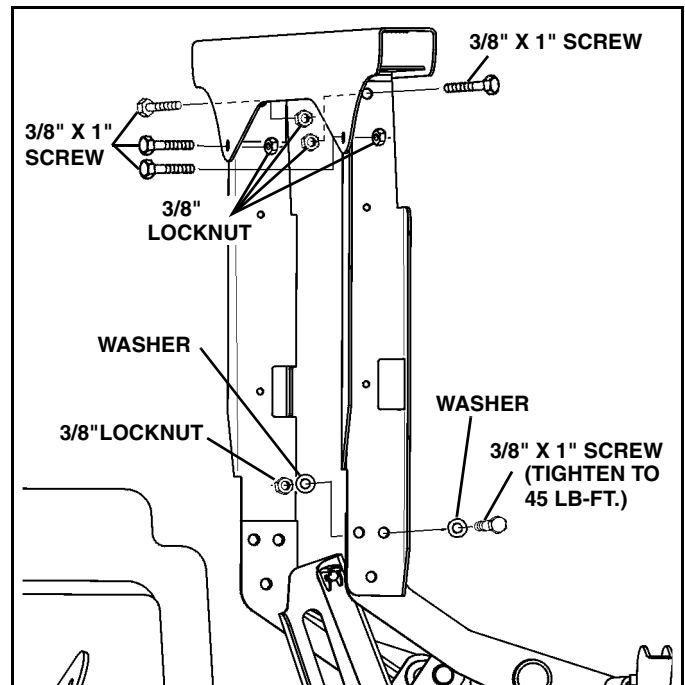

Figure 1-6
13. Remove left and right light bar supports from package. Secure each light bar support to light/lift bar with (3) 3/8" x 1" screws, washers and lock nuts from the light bar parts bag. Do not tighten at this time. (See Figure 1-6)
14. Secure the light bar to the light bar supports with (4) 3/8" x 1" screws and lock nuts. Align light bar supports to vertical position and tighten all light bar hardware. Tighten six lower screws to 45 lb-ft. (See Figure 1-6)